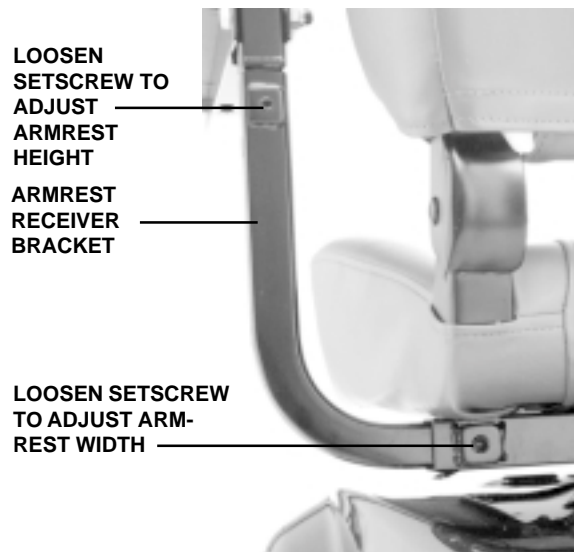

Figure 11. Armrest Width/Height Adjustment
1. Loosen the setscrew on the armrest receiver bracket and slide the armrest in or out to the desired width. See figure 11.
1. Loosen the setscrew located underneath the armrest. See figure 11.